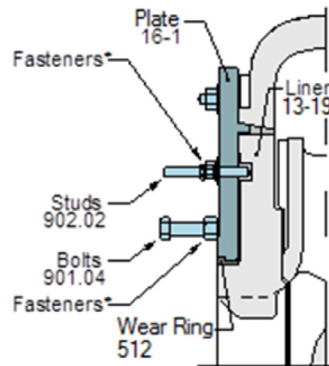

Figure 10-13: Installing Studs into the Liner
3. Install the studs (902.02) into the liner (Figure 10-13), and apply light oil or anti-seize to the exposed end of the stud.